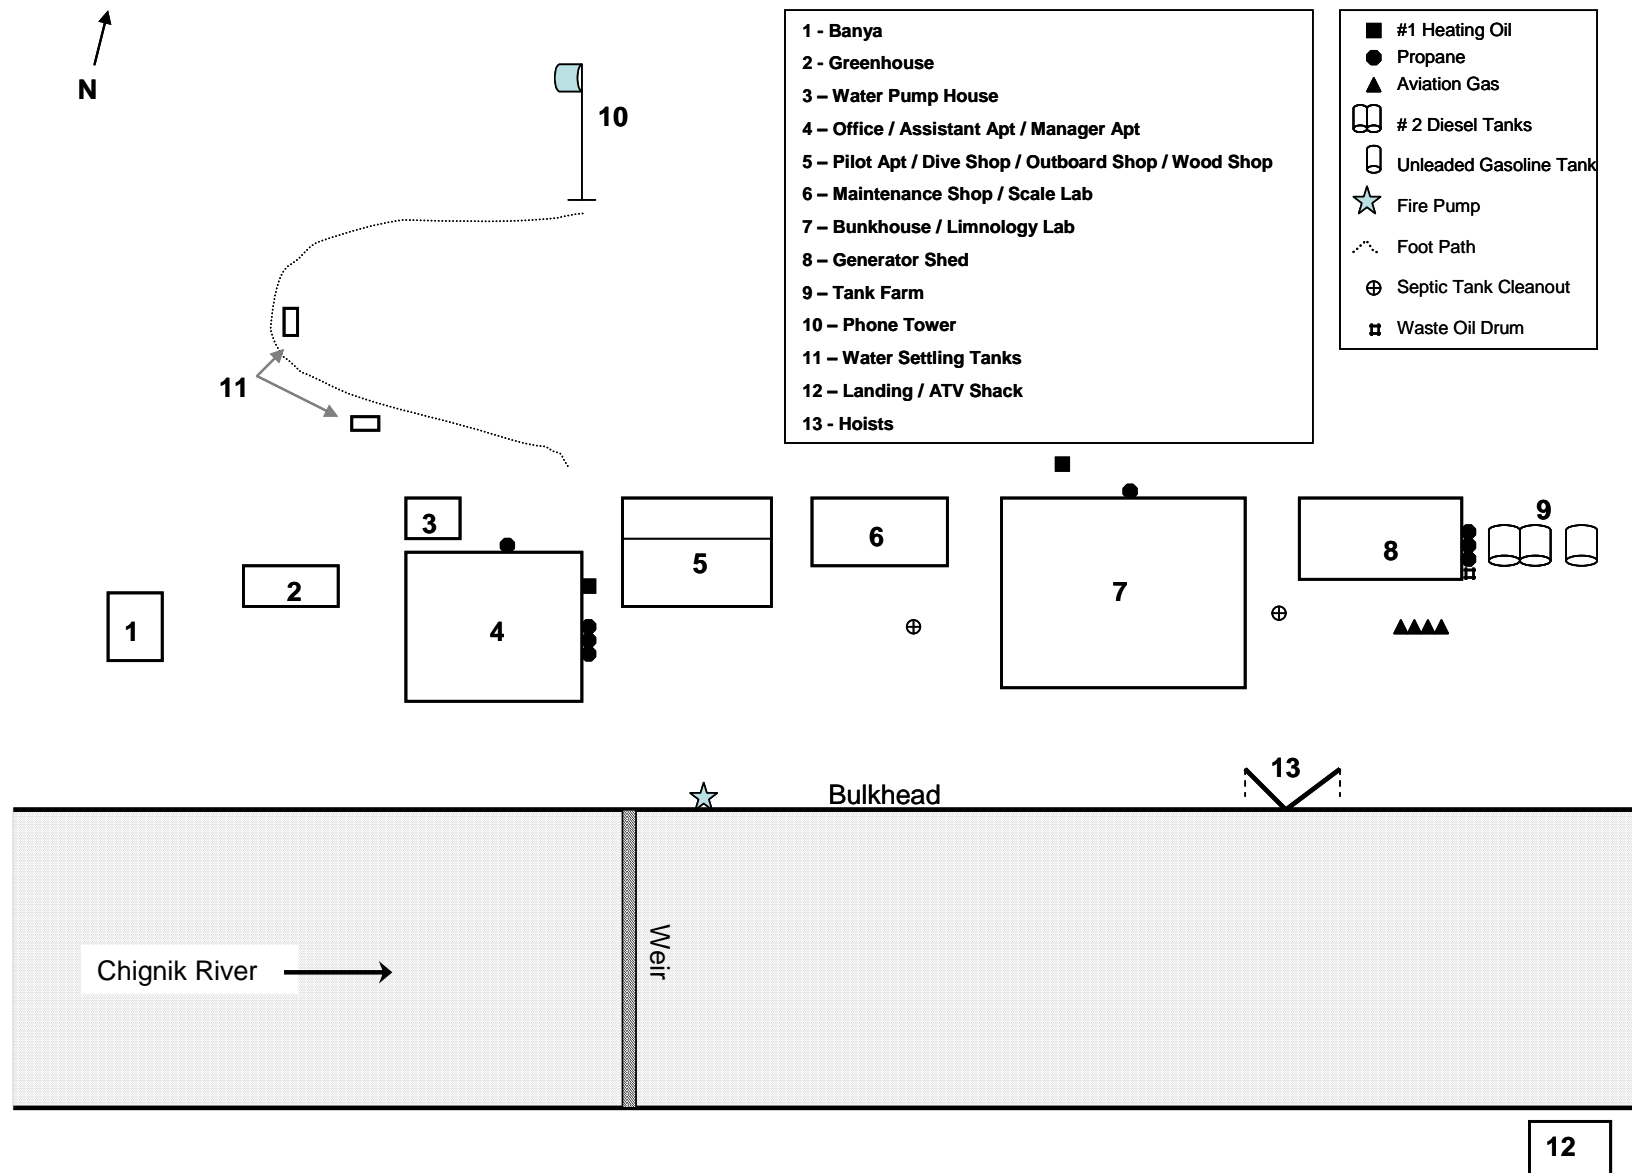

Figure 3.—Chignik weir facility site map.
One phone line is transmitted on the old Ritron Transceiver and the remaining four lines use the new Trailblazer Phone Extender system. Both system antennae are located on the communications tower on the hill above the weir facility (#10; Figure 3). Telephone signals are transmitted from the weir communications tower to a sister tower located in Chignik Lake Village (located on Donny Lind's house, 21 Hillside View, AT&T house #167, home phone (907) 845-2324, cell phone (907) 444-7349) where they are connected to the regional telephone network provider (ACS). At present, the single Ritron Transceiver line is not secure - meaning they transmit on the same frequency as common VHF and/or Single Side Band radios. Thus, facility phone conversations can be, and are, regularly monitored by the public. Given this lack of privacy, discretion must be used when communicating official business, personal information (SSN#, credit card information etc.), or anything of local/regional concern.